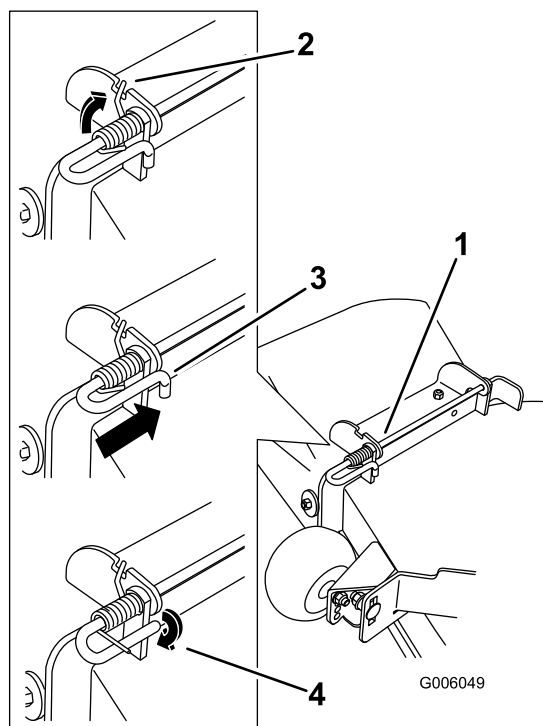

Figure 72
- Lift the long end of the spring and place it into the notch on the deflector assembly bracket (Figure 72).
- Secure the rod and spring assembly by twisting it so the short end of the rod can be placed behind the front bracket welded to the deck (Figure 72).